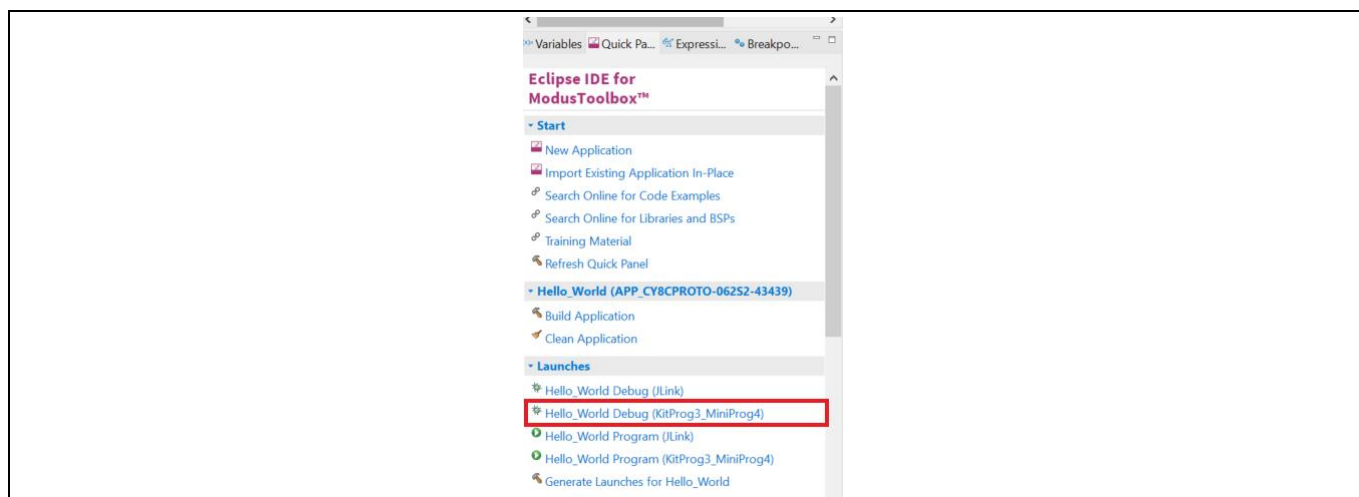

Figure 8 Debugging in ModusToolbox™
- ModusToolbox™ has an integrated debugger. To debug a PSoC™ 6 MCU application, in the Project Explorer, select **<App_Name>** project. In the Quick Panel, scroll to the **Launches** section and click the **<App_Name> Debug (KitProg3_Miniprogram4)** configuration as shown in **Figure 8**. For a detailed explanation on how to debug using ModusToolbox™, see KBA224621.